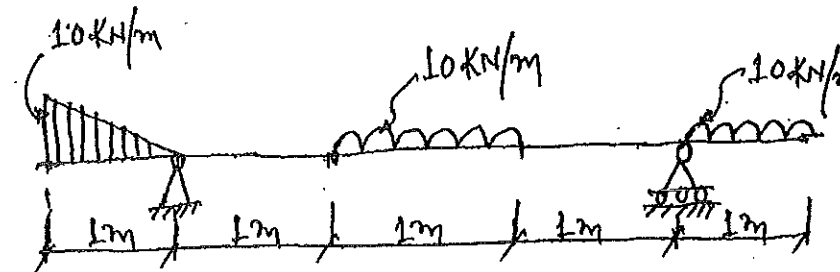

Fig. 2
13. a) Analyze the double-overhanging beam shown in Fig. 2 and draw the SF and BMDs indicating the salient values in them. (4+6+6)